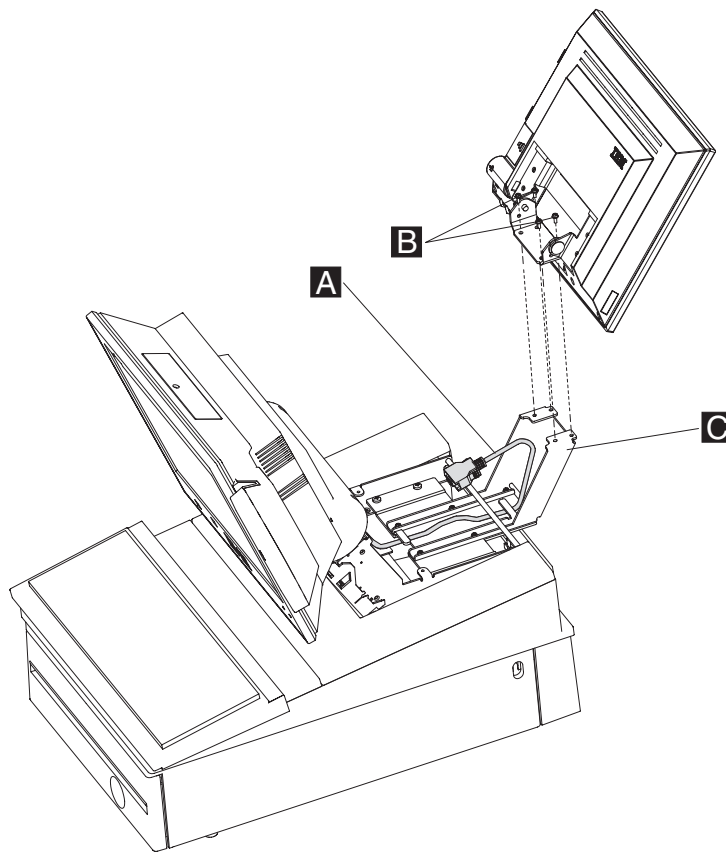

Figure 48. Removing the 4820 SurePoint Solution
- c. Remove the 4820 display by removing the four screws **B** from the display mounting bracket **C**, as shown in Figure 48. Carefully place the 4820 display on a smooth, clean surface.